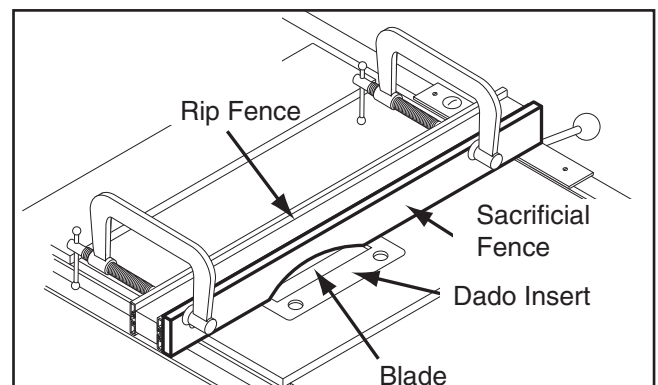

Figure 50. Sacrificial fence.
Rabbet cutting on the edge of the workpiece requires a sacrificial fence attachment as shown in **Figure 50**.
- Attach it to the fence with screws or clamps as shown in **Figure 50**, making sure they are all secure and tight.